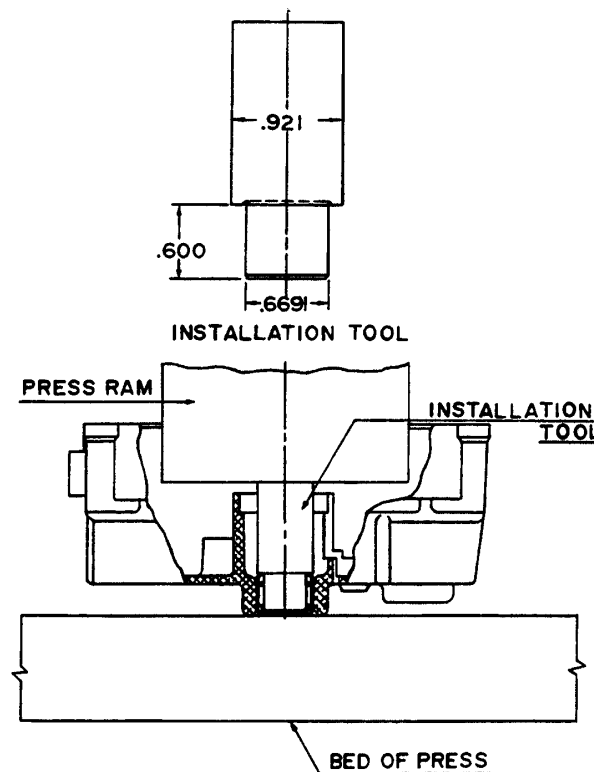

FIGURE 20
1. Use an arbor press and the tool shown to install a new bearing. Support the housing (30) by the bearing boss to prevent breakage of the casting. Press in the bearing flush with the outer boss of the housing. Use extreme care to avoid misalignment or otherwise overstressing the bearing. (See Figure 20.)